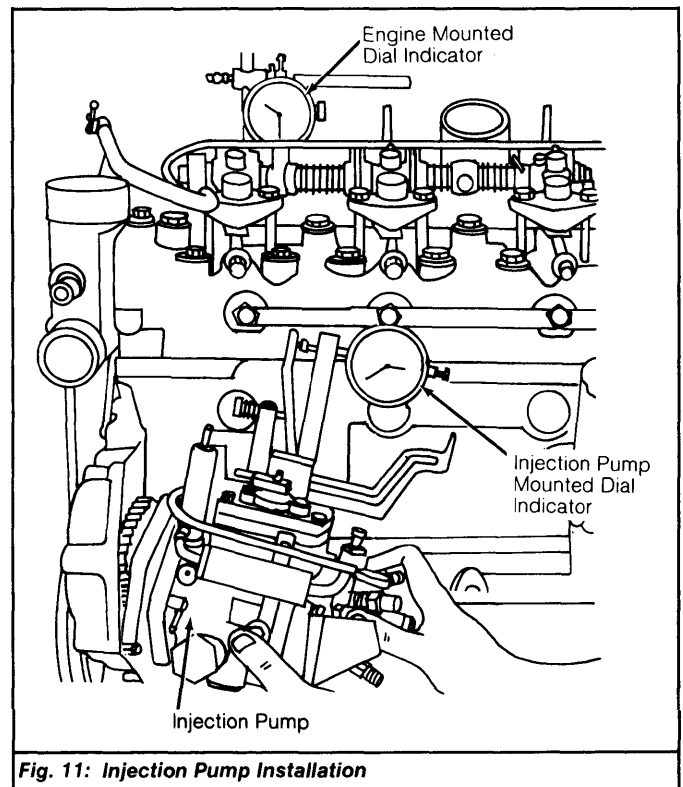

Fig. 11: Injection Pump Installation
4) To verify pump setting, bring engine up to TDC and check that engine dial indicator reading is zero. Now rotate engine in opposite direction of rotation (counterclockwise) until engine mounted DIAL INDICATOR NEEDLE has completed exactly 7 revolutions. See Fig. 11.